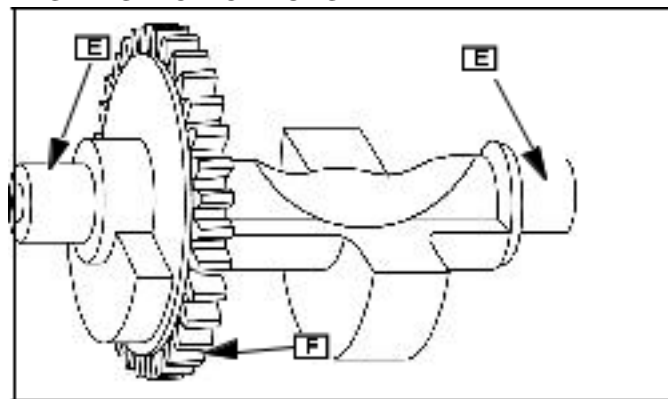

Fig. 9
Measure and inspect the counterweight shaft journals (E) and gear teeth ([F] Fig. 9). Replace shaft if worn beyond tolerances.